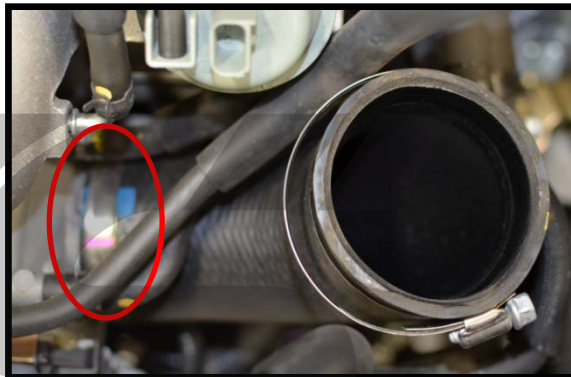

Figure 1e
- f) Remove the OEM inlet and outlet boost tubes from the engine. Use a 10mm socket and ratchet or #2 Phillips screwdriver. Figure 1e.